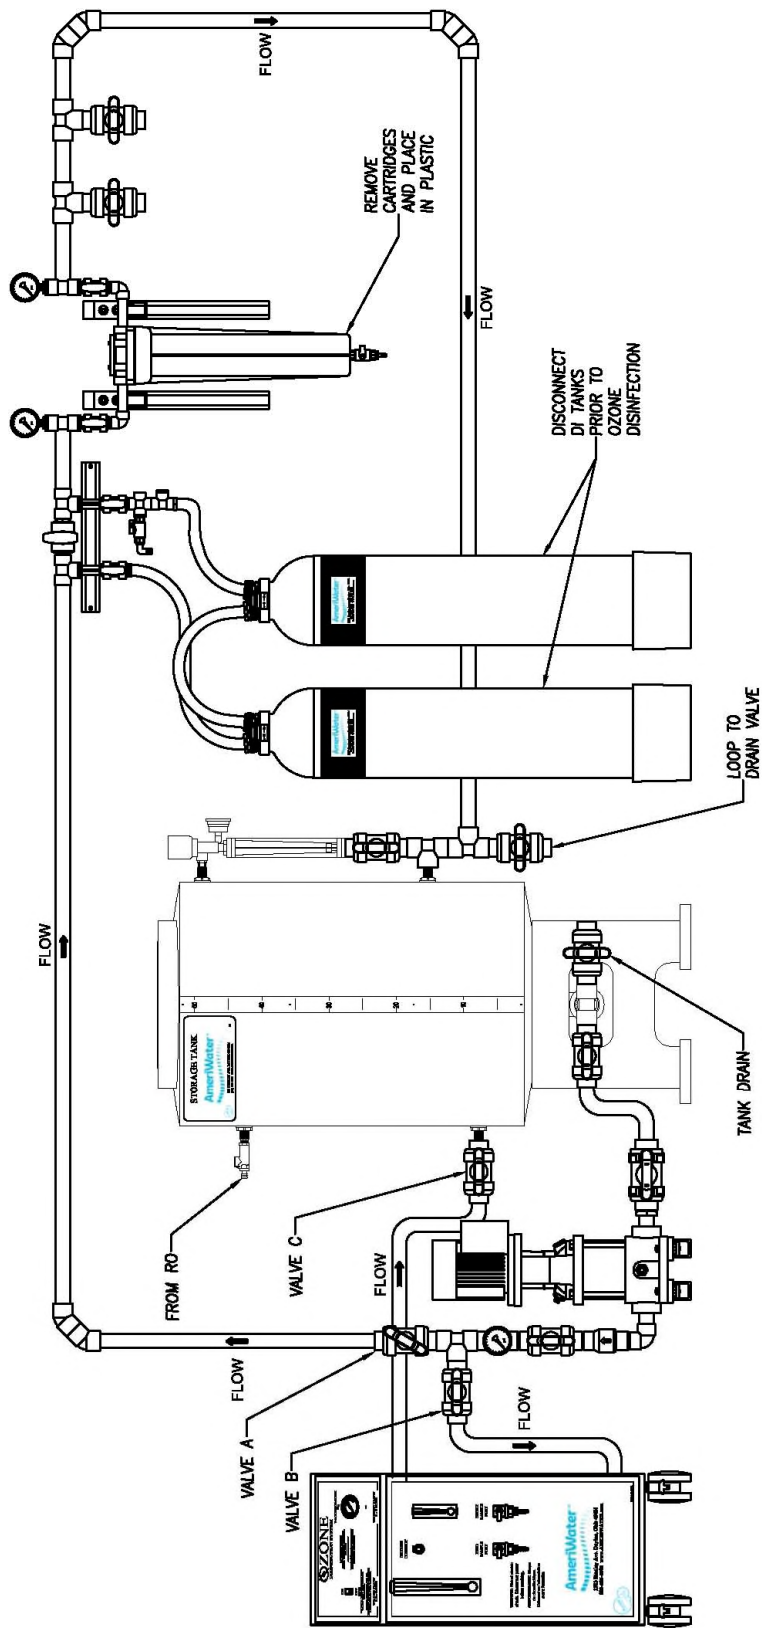

Figure 4B
3. Connect the ozone inlet hose to VALVE B, on the ozone bypass (see Figure 4B). Connect the ozone outlet hose to VALVE C, on the storage tank. The quick connect fittings are gender-oriented to prevent incorrect connections.
4. Open VALVE B on the loop and VALVE C on the storage tank. Throttle VALVE A on the loop (see Figure 4B) to force water through the ozone system. Turn on the distribution pump. (If the water system has dual distribution pumps, use only one of the pumps at this time.) The feed flow should be between 3.5-5 GPM.